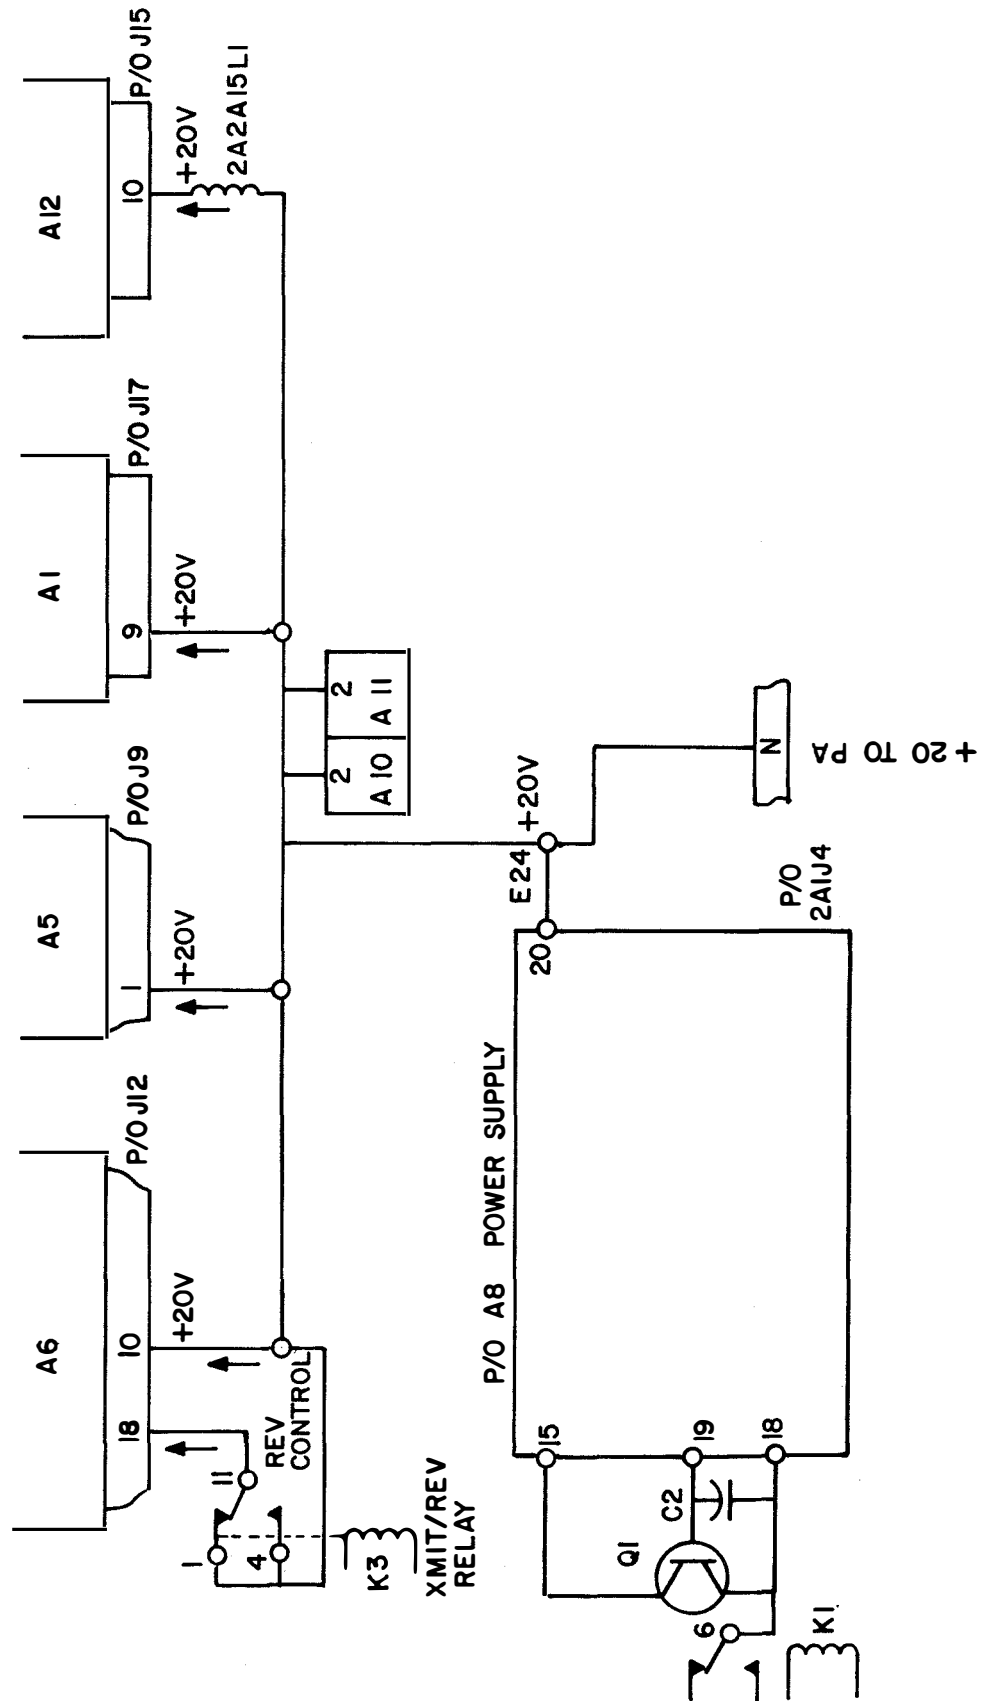

FIGURE 5
6. TRACE +20 VDC line using purple as the recommended color on page 11 and using Figure 5.